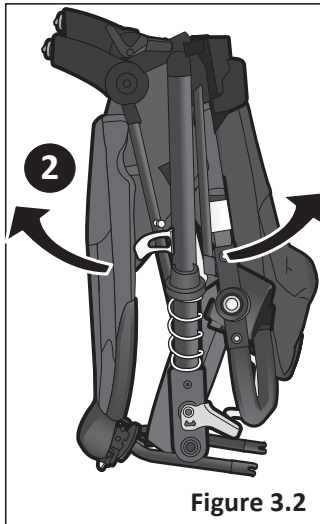

Figure 3.2
- 2** Continue holding lock open while pulling up on handle **Figure 3.2** until frame “clicks” into place. **Figure 3.3**